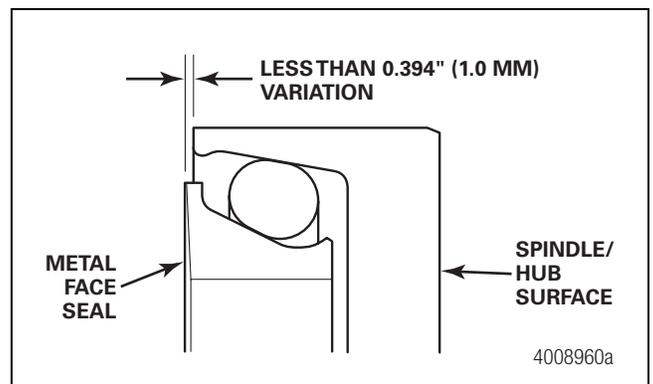

Figure 9.18
5. Check the seal's assembled height in at least four places 90 degrees apart. The variation must not exceed 0.394-inch (1.0 mm). Figure 9.18.